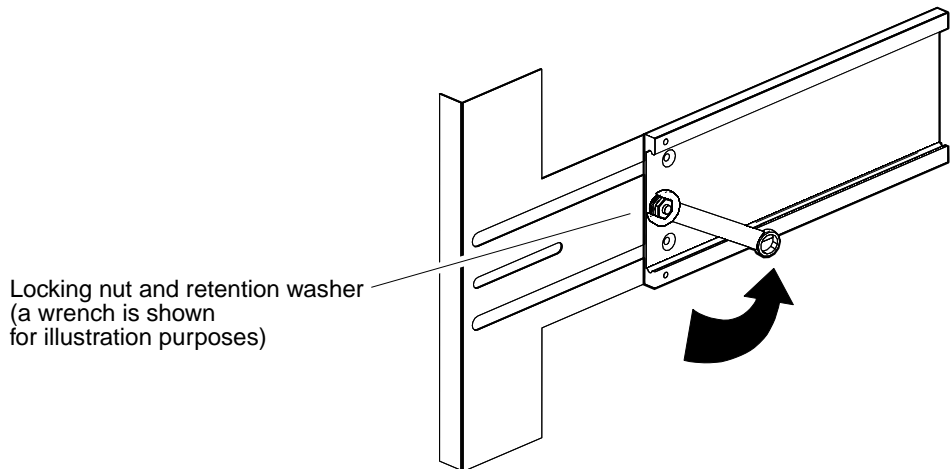

FIGURE 1 Locking Nut
8. If locking nuts and retention washers are installed (FIGURE 1), remove them and store for future use.